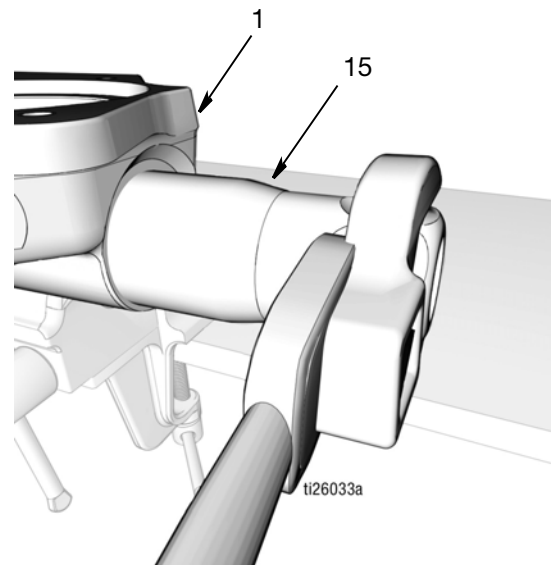

FIG. 44
- c. Thread the outlet check valve (15) into the pump base (1) (FIG. 44). Tighten securely. Then torque to 50 to 55 ft. lbs (67.8 to 74.5 N•m).